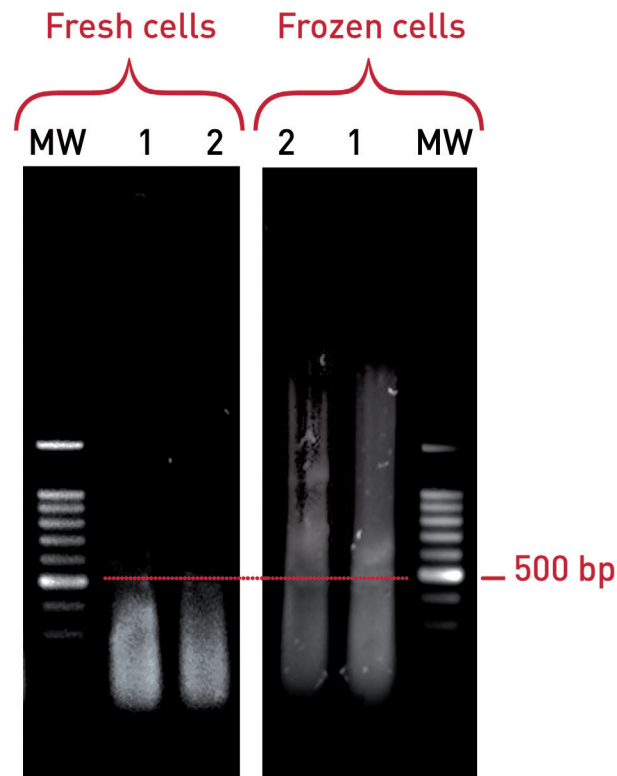

Figure 5: Superior chromatin shearing results obtained with fresh compared to frozen cells
- It is best to prepare samples of sheared chromatin from **fresh cells** and directly use them in ChIP, especially when doing ChIP-seq. However, it is also possible to freeze cells and shear chromatin another day. Pellets of frozen cells are by far more stable than sheared frozen chromatin samples (fresh cells > frozen cells >> frozen chromatin). Given that frozen cells may behave differently than fresh ones, it is recommended to optimize sonication conditions for each cell condition (Figure 5).
- to ensure the best results, Diagenode strongly recommends to use fresh cells (compared to frozen cells) (Figure 5)